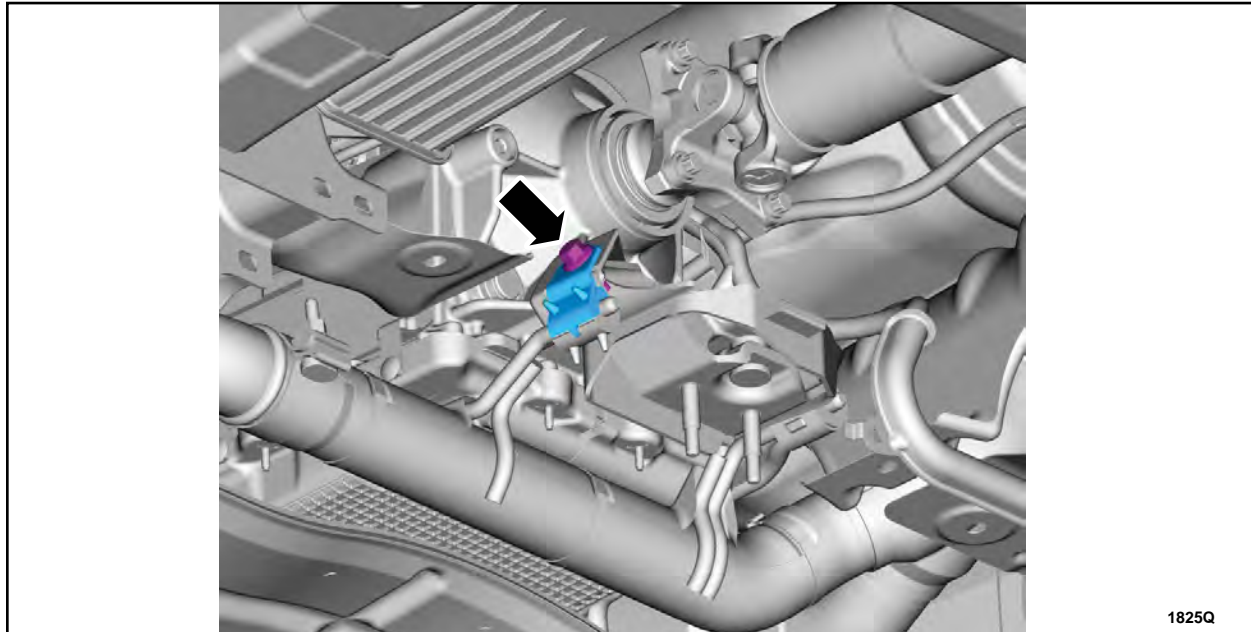

FIGURE 24
41. Remove the bolt and the LH isolator cap. See Figure 24.